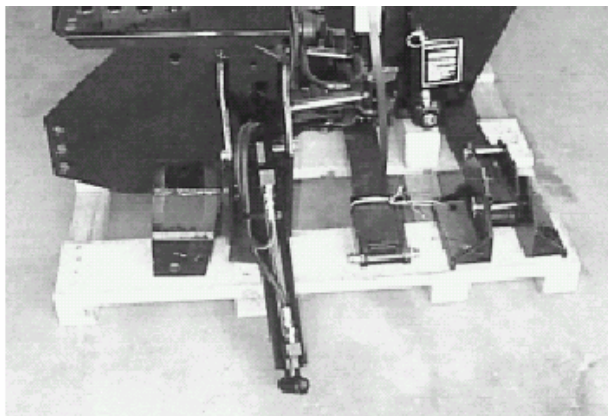

Figure 12A
1. Remove the stabilizer assemblies and any miscellaneous items which have been fastened to the skid and arrange conveniently. Reposition stabilizer cylinders from their shipping configuration (See Fig. 12A), by assembling them into the Mainframe, using pins and hardware provided. Be sure cylinder ports are pointed upward and hoses are routed above the cylinder to main-frame pivot pin connection. See Fig. 12B.